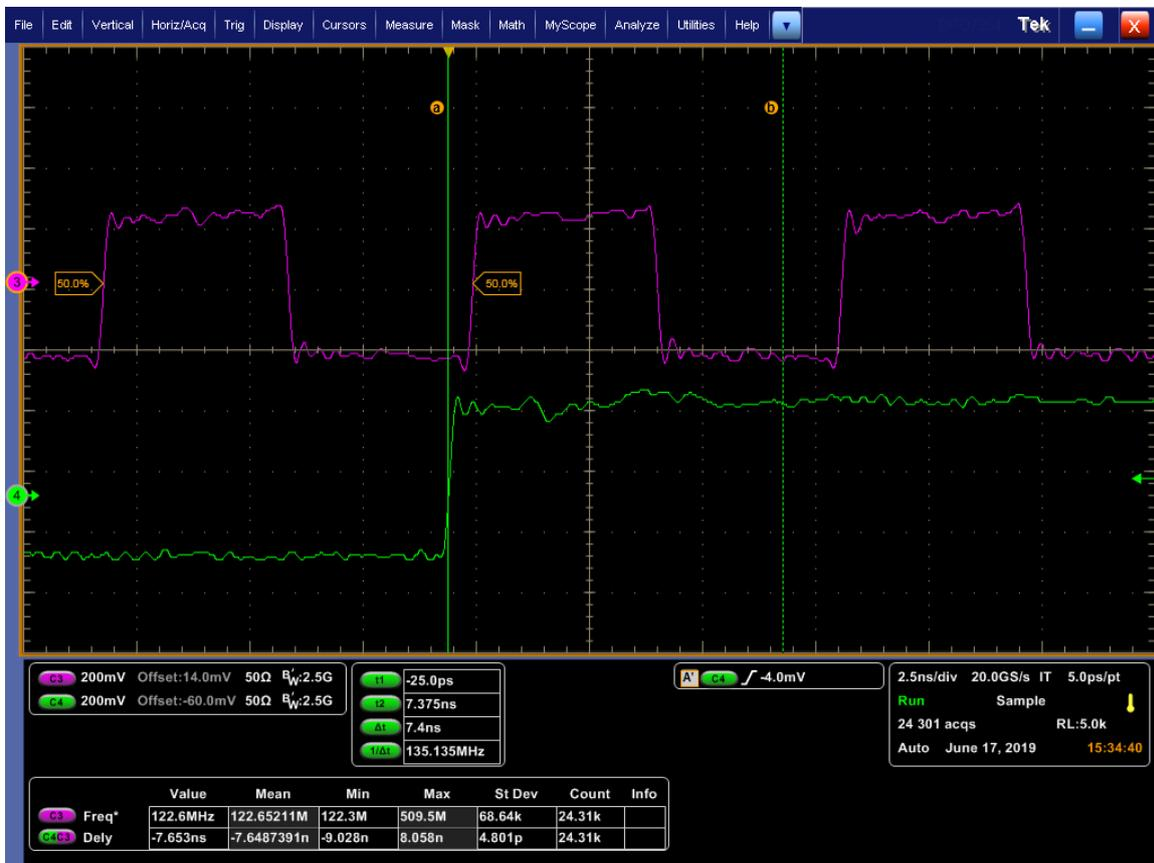

Figure 2. Sysref to QCLK Delay after Updating Sysref Global Phase Delay
2. Repeat Steps 2 (INIT_CLK_D) and 3 (the waveform is shown in Figure 2). Note that the Sysref rising edge shifts to near phase align to slightly lead the R0 clock output rising edge. Step 2 (INIT_CLK) will interrupt the Rx clock outputs but this will not interrupt other outputs that do not use RF_PLL (e.g., QCLK_Dx outputs that do not use the RFPLL).